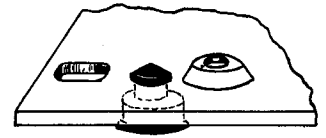

Figure 21
- (✓) Observe Figure 21 and install the four rubber feet in the four large holes provided in the bottom cover. Insert from the painted side of the cover.